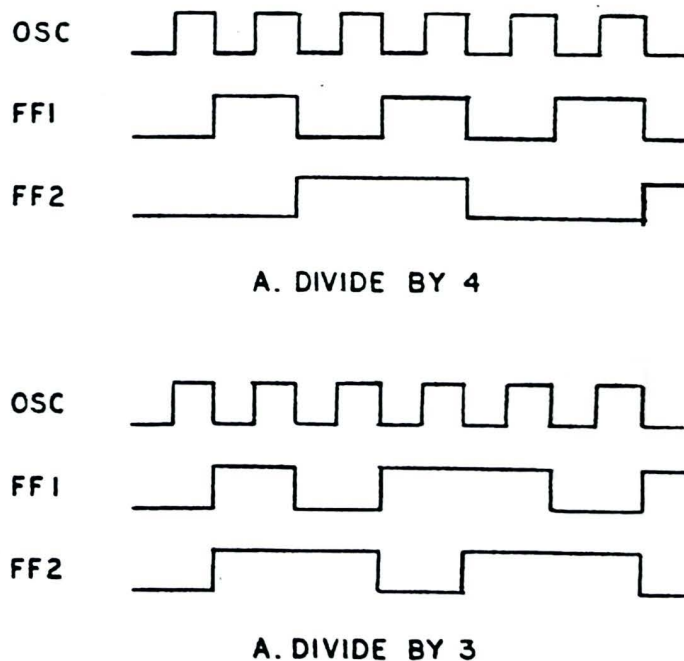

Fig. 14 - Time Base, Divide-By-Three Function
### Time-Base Circuits (Fig. 14 and 30)
\*Downcounter FF1-FF8 divides by 192 instead of the normal 256 when FF1 and FF2 are implemented to divide by 3 instead of the normal 4 (Fig. 14).
3.33 When the BIT RATE select switch is set to rate 50, the output of gate G20 goes low to enable gate G21 and disable gate G22. Bistables FF1 and FF2 then divide by 3 instead of the normal 4 (Fig. 14). The 1-output of FF8 is then 1.92MHz divided by 192, or (200 x 50)Hz.